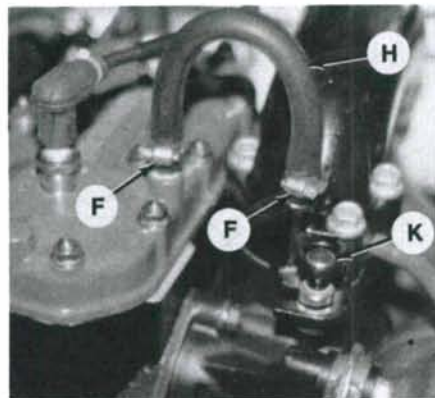

Fig. JS3-30—View identifies bypass hose (H) and fitting (F) on cylinder head and exhaust pipe. Knob (K) controls operation of water drain valve via a cable.
Remove bypass hose (H—Fig. JS3-30) from fitting (F) on cylinder head and exhaust pipe. Refer to Fig. JS3-31. Connect a short piece of a suitable sized hose to fitting on cylinder head and exhaust pipe, then connect hose ends to a tee adapter. Use a suitable sized hose and an adapter and connect a supplemental water supply to tee adapter.
To flush the cooling system, remove bypass hose (H—Fig. JS3-30) from fitting
A reed valve type water drain valve is mounted on the lower crankcase half. Water drain valve is provided to allow crankcase to be easily drained when contaminated with water. Knob (K—Fig. JS3-30) is used to operate a control valve in water drain valve assembly via a cable. The positioning of the control valve will allow operation or restrict operation of reed valve in water drain valve assembly. To drain crankcase of any water, remove spark plug leads and properly ground. Pull knob (K) up to allow operation of reed valve. Crank engine over with electric starter to expel water from crankcase. To restrict operation of reed valve, push knob (K) down to seated position.
Fig. JS3-31—Remove bypass hose (H—Fig. JS3-30), then connect components as shown to fitting (F—Fig. JS3-30) on cylinder head and exhaust pipe to connect a supplemental water supply.